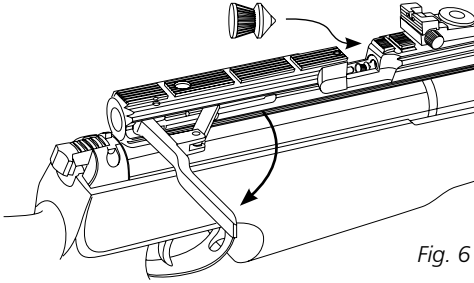

Fig. 6
1. Pull the cocking lever until it locks and put one pellet into the pellet-loading port as shown in Fig 6.